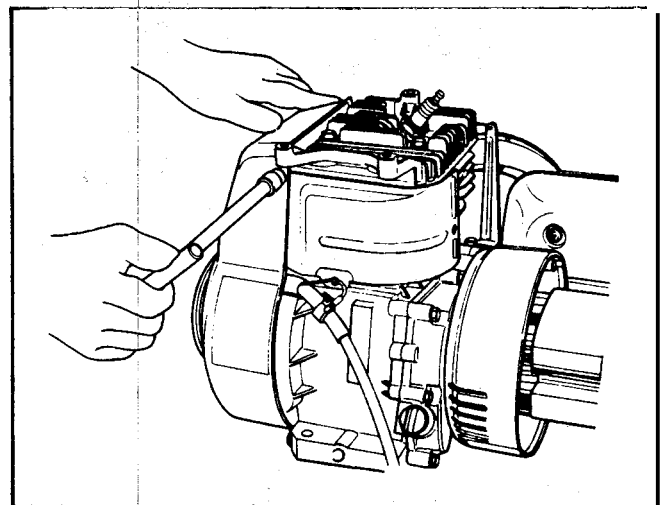

Figure 124
40. Install the sheet metal components on the engine. See Figure 124 and 125.